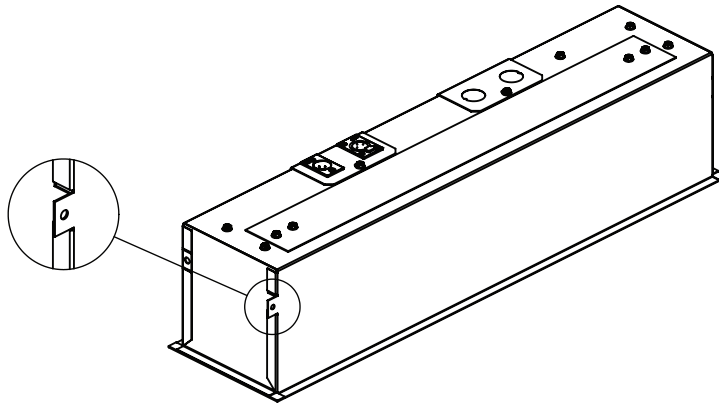

Figure 3
6. Install "safety wires" on the tabs on the side of the fixtures and attach to the building structure, in compliance with local codes (Figure 3). **Brightline** recommends not relying on the t-track alone to hold the weight of the fixture.